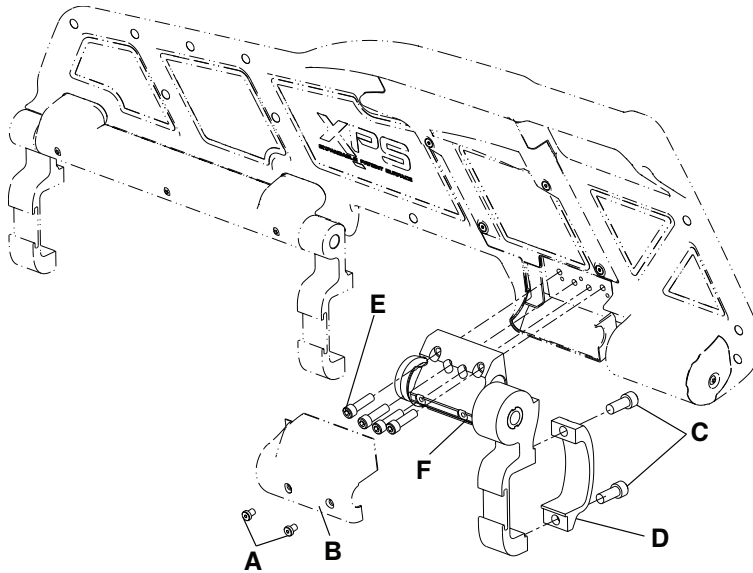

Figure 10 – Ratchet assembly replacement (XPS)
- Using a 3/32" hex wrench, remove the two screws (A) that secure the ratchet cover (B) to the ratchet assembly. Remove the cover (Figure 10).
- Using a 1/4" hex wrench, remove the socket head cap screws (C) that secure the siderail clamp (D) to the ratchet assembly at the foot end of the main assembly (Figure 10). When you reinstall, use a torque wrench to torque both new screws to 22 ± 3.3 ft-lb.
- Using a 3/16" hex wrench, remove the four screws (E) that secure the ratchet assembly (F) to the overmold assembly and discard. Remove the ratchet assembly (Figure 10). When you reinstall, use a torque wrench to torque the four new screws to 9.5 ± 1.5 ft-lb.